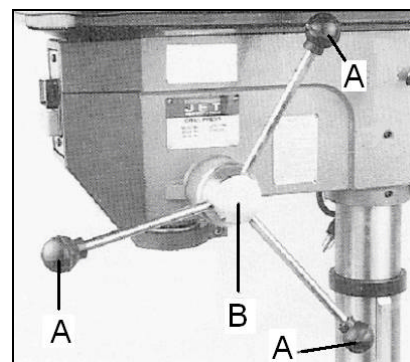

Fig 5
Install three down feed handles (A, Fig 5) into the down feed hub (B).